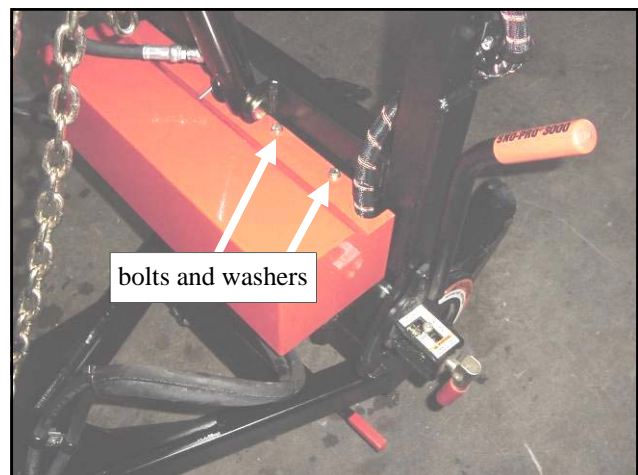

Fig. 12.5 (view of driver's side)
12.5 Per fig. 12.5, secure the pump cover in place using the following hardware: four 1/4-20 x 5/8" long hex head bolts, four 1/4" lock washers, and four 1/4" flat washers. These will engage into factory installed weldnuts on the lift frame. Use caution to avoid cross-threading the factory installed weldnuts. Start the bolt engagement by hand. Tighten all four bolts.